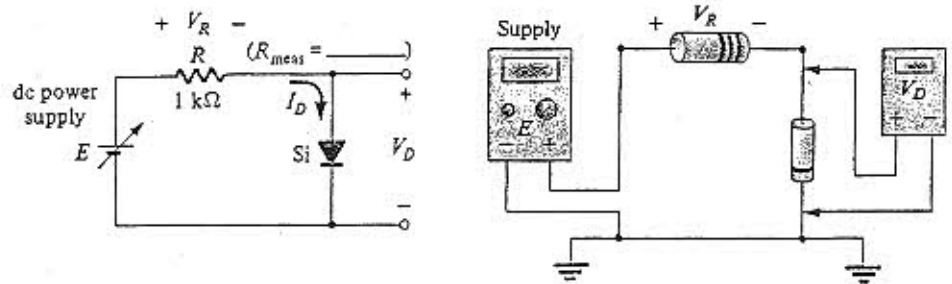

Figure 2-4
- a. Construct the network of Fig. 2.4 with the supply (E) set at 0 V. Record the measured value of the resistor.
Reconstruct the circuit of Fig. 2.4 using the silicon diode. Establish a current of about 1 mA by setting V_R to 1 V.